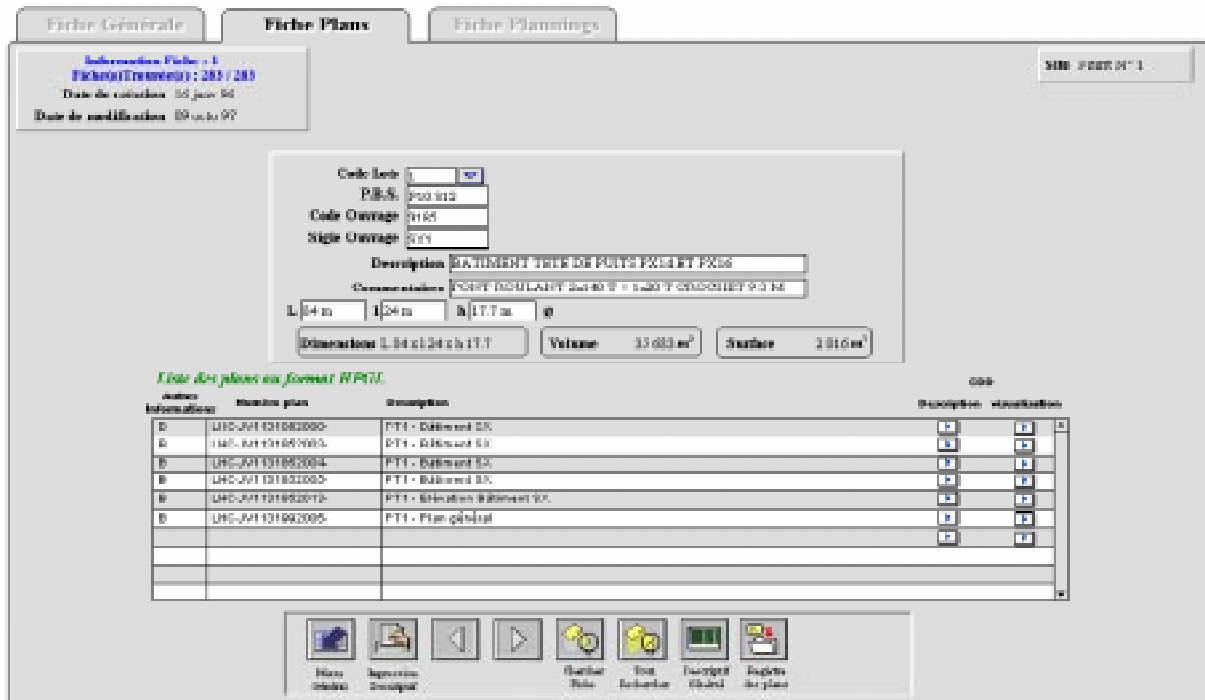

Fig. 2 Example of different drawings applicable to one structure (SX building – Package 1).
- the drawing form per structure (lists all the approved drawings related to the structure - Fig. 2),